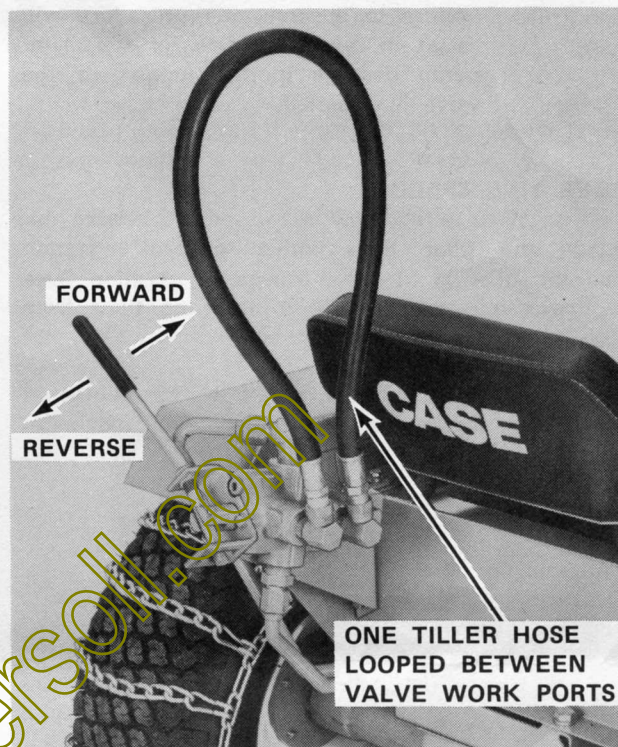

FIGURE 3 Hydraulic PTO
The tiller tines are actuated with the hydraulic PTO. See Figure 3.
**VERY IMPORTANT** Only operate the tractor with tiller hoses connected or one hose looped between the valve work ports. (Fig. 3) Failure to observe this procedure will result in oil loss (ports left open) or pump damage (ports plugged) if the valve is actuated.